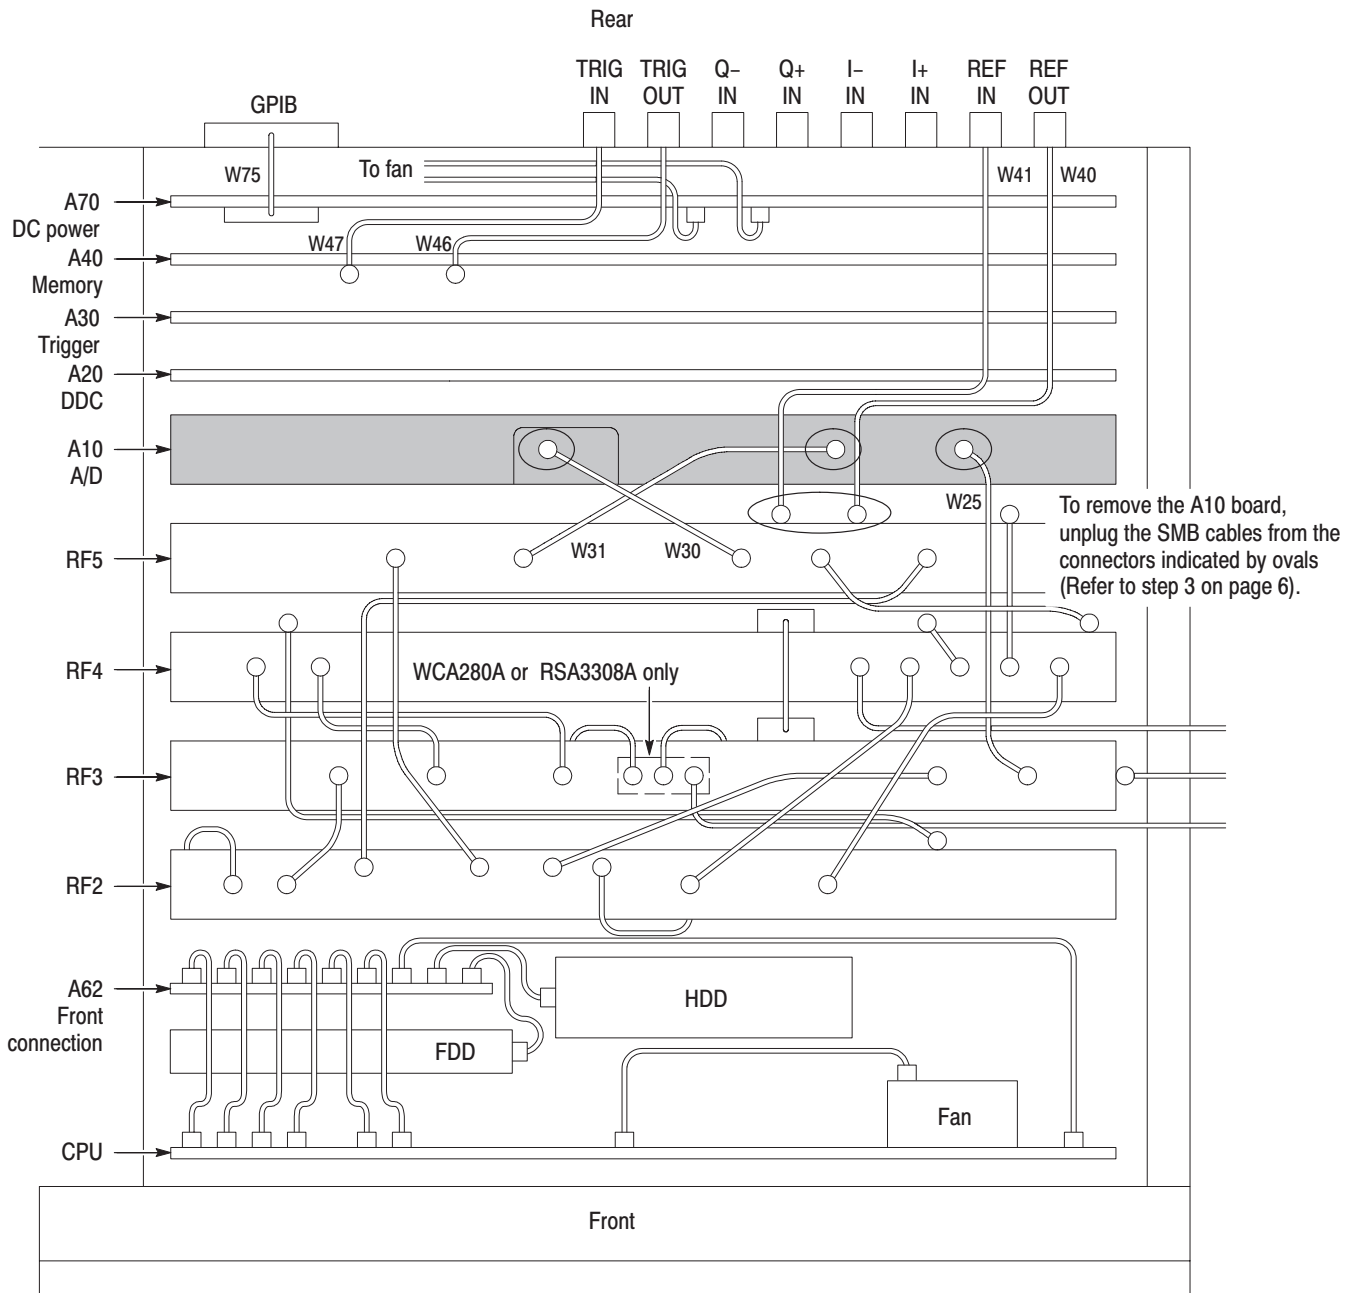

Figure 3: Top view of the card cage
1. Locate the A10 A/D board in Figure 3 (top view of the card cage) below.
3. *Disconnect cables to access the A10 A/D board:* See Figure 3 on page 5.